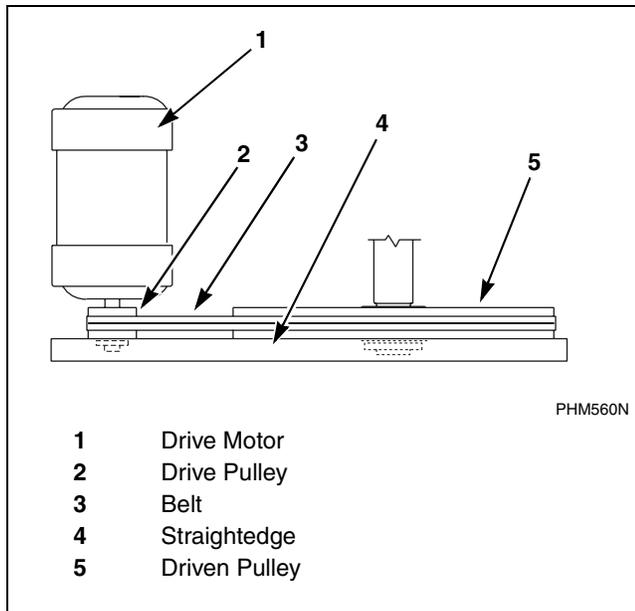

Figure 7
- c. Verify that belts are properly aligned by checking pulley alignment. Place a straightedge across both pulley faces. The straightedge should make contact with the pulleys in four places. Refer to *Figure 7*.